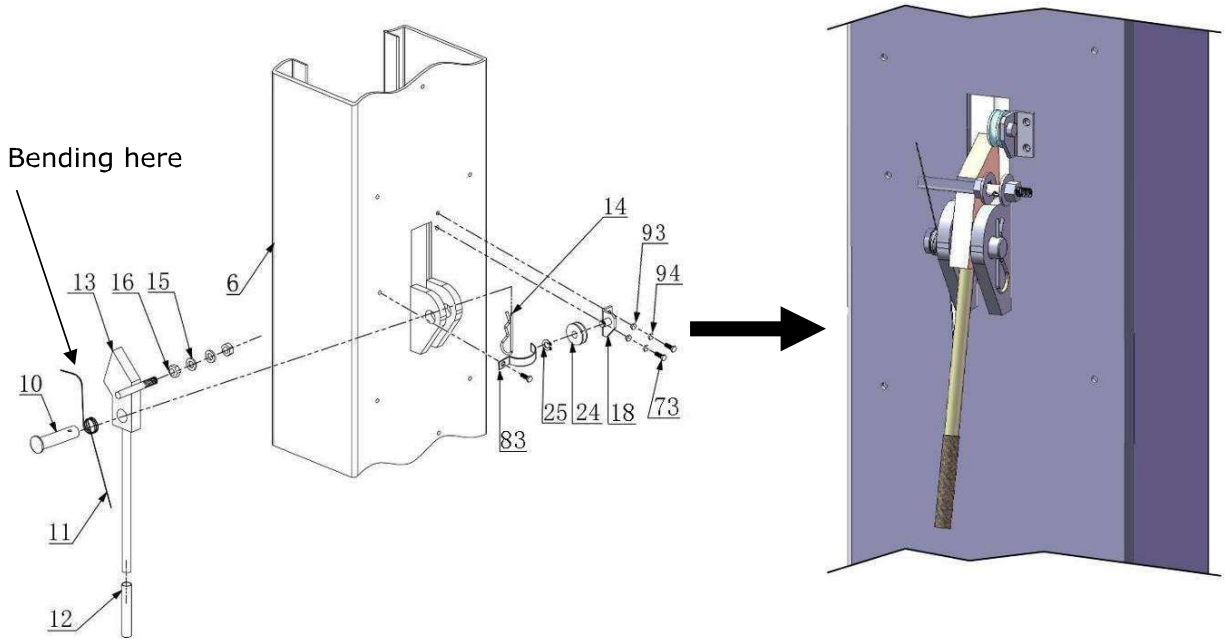
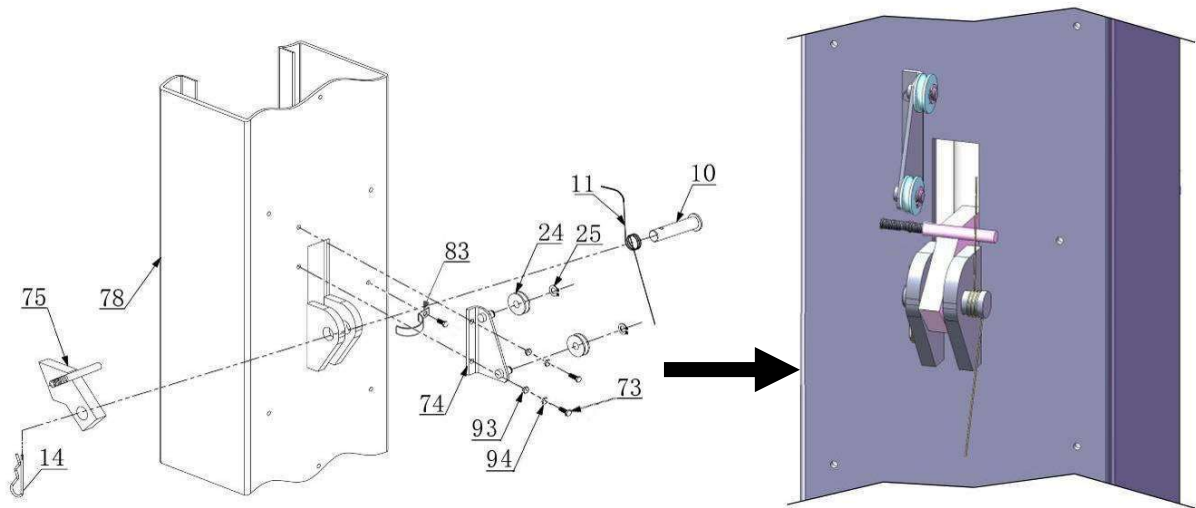

Fig. 19 Powerside Safety Device
Fig. 20 Offside Safety Device
I. Install safety device (See Fig. 19 & Fig. 20).